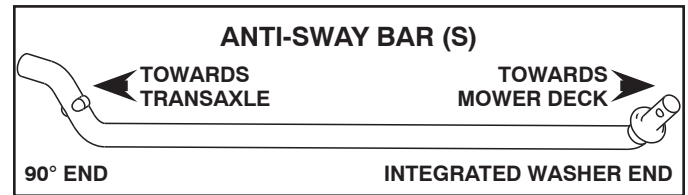

Fig. 8
5. INSTALL ANTI-SWAY BAR (S) (IF EQUIPPED) (See Fig. 8 - 10)